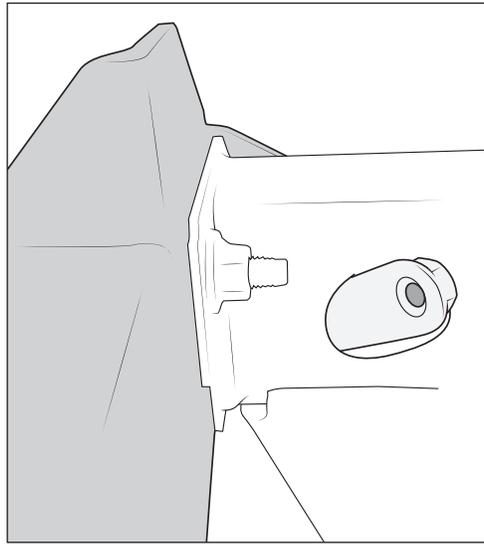

Figure 6
2. Insert flag nut into frame rail and start two M10 bolts (fig. 6).